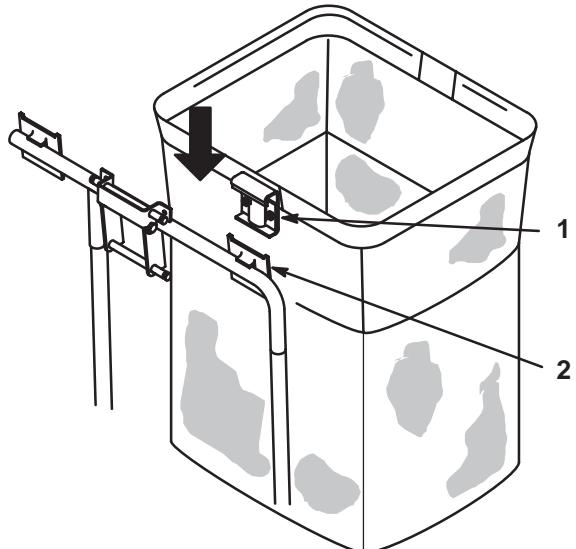

Figure 19
- Install the bags by sliding the bag frame hooks onto the retaining brackets (Fig. 19).